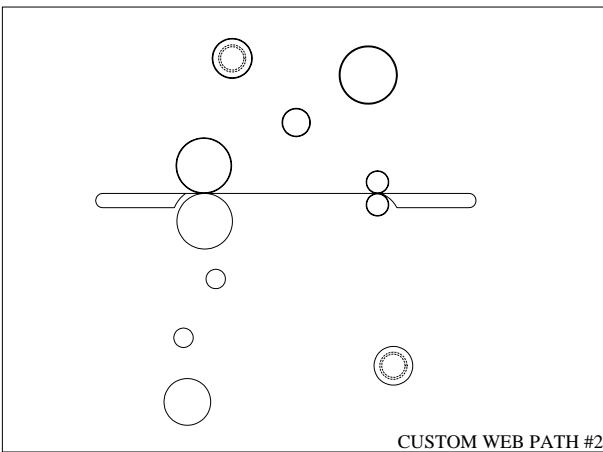

Figure 38
**TIPS FOR CUSTOM APPLICATION #2 (Fig. 38)**